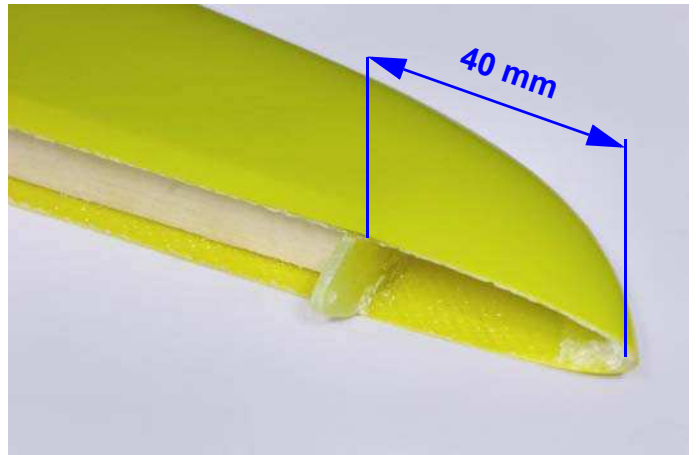

Fig.42: Glue the support in the position shown.
- Using some cyano, glue the rudder pin support “SSUP” in the position shown in figure 42;